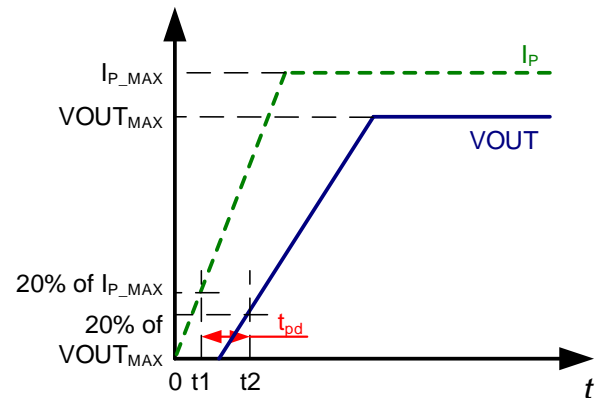

Figure 6: Propagation Delay (t_{PD})
2. $t2$: V_{OUT} reaches 20% of V_{OUT_MAX} (see Figure 6).